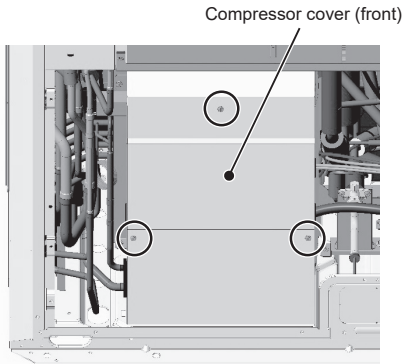

Figure 1
- (1) Remove the compressor cover (front). (3 screws, Figure 1)